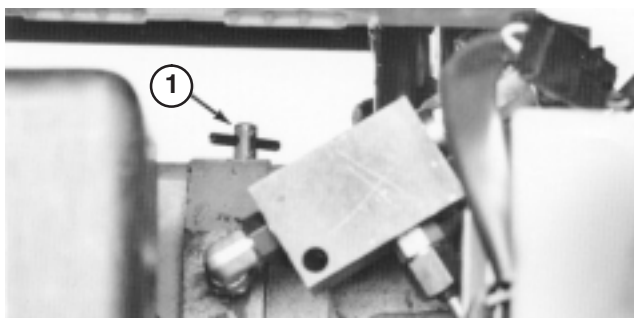

Figure 16
- Reach in and rotate bypass valve on transmission (Fig. 16) counterclockwise 1/2 to 1 turn. Opening the valve opens an internal passage in the pump, thereby bypassing transmission oil. Because fluid is bypassed, the machine can be pushed without damaging the transmission.